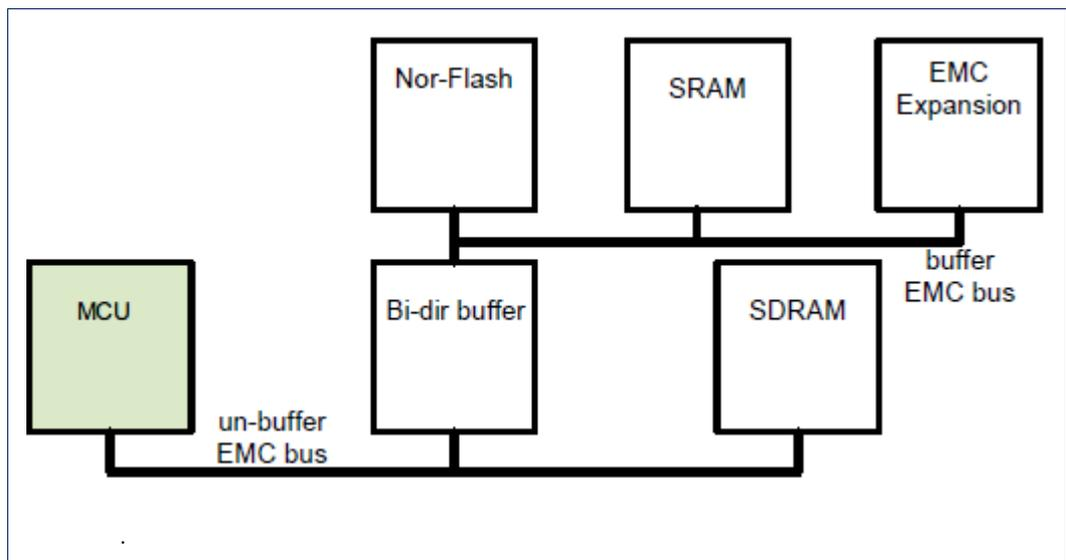

Fig 9. SDRAM signals with buffer
- For more than four devices (including the SDRAM and MCU) connected to the EMC bus, connect only the SDRAM and the bidirectional bus buffers to the MCU EMC directly. Connect other devices to the buffered side of the EMC bus; see Fig 9.